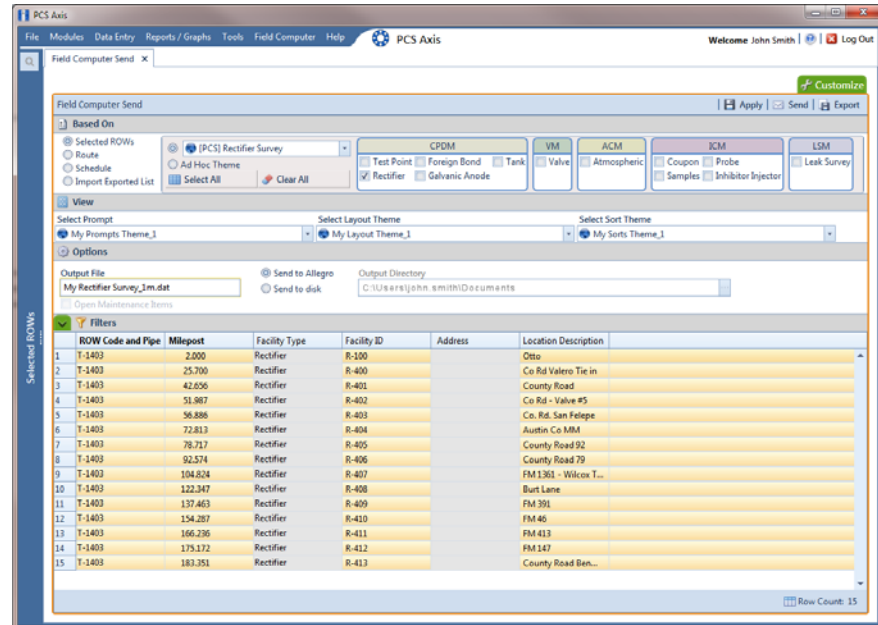

Figure 13-23. Field Computer Send Based on Selected ROWs
- b Choose one or more facility types using one of the following options (Figure 13-23):